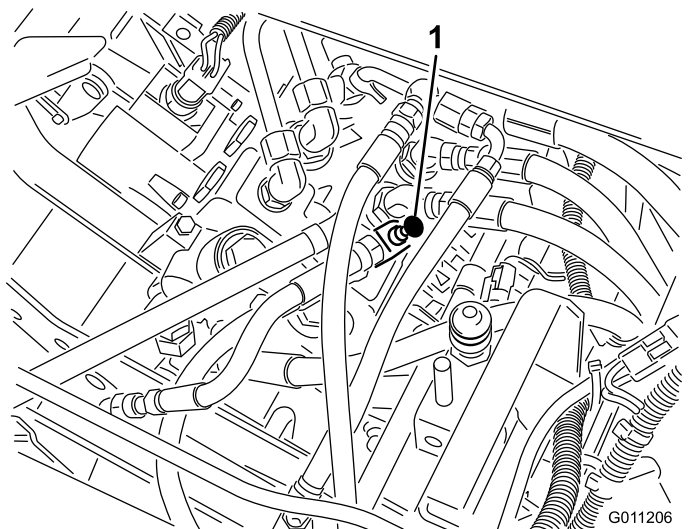

Figure 45
1. Raise the seat and locate the flow control valve mounted to the main control valve (Figure 45).